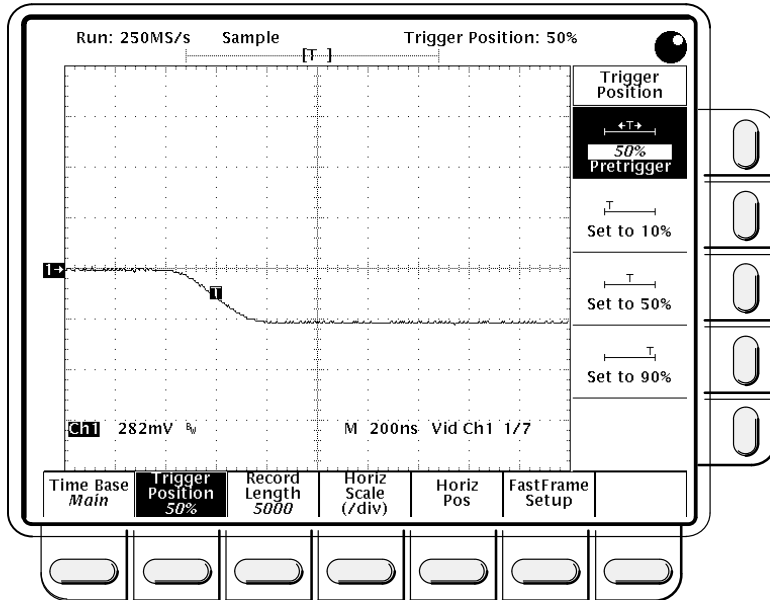

Figure 1-37: Line Count Accuracy Test Setup Waveform
- Use the **HORIZONTAL POSITION** knob to move the falling edge of the sync pulse to two divisions to the left of center screen (See Figure 1-37).